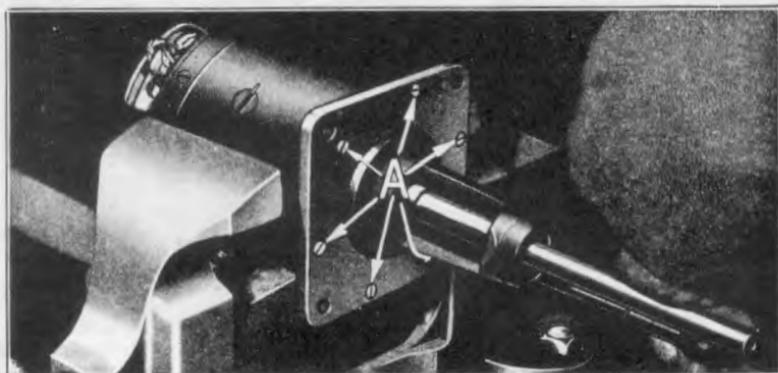
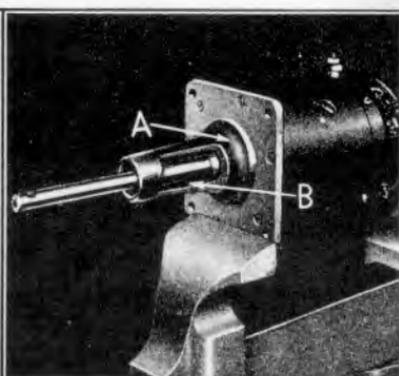

Fig. 487
Fig. 496
956 Run out the six mounting bracket to yoke screws (See "A" Fig. 487).
- 974 Insert armature into yoke placing mounting bracket "A" over end of shaft and positioning it against yoke. The bracket is installed with the opening "B" in bracket placed to the right when facing front end of starting motor as shown in Fig. 496. Run in the six mounting bracket to yoke screws and lockwashers (See Fig. 487). Lower brushes into brush holders and position brush springs over brushes.